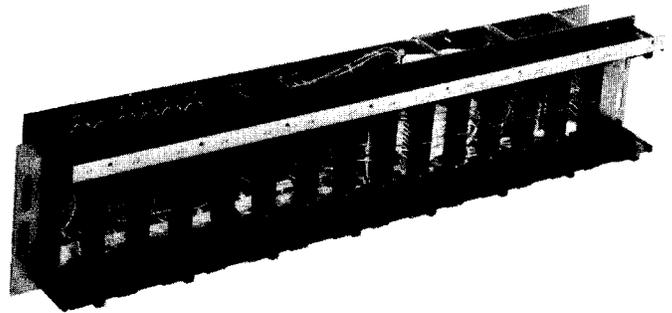

Fig. 1 SB319A Key Service Panel
- 1.1 This section provides general description and installation information for the San/Bar 319A Key Service Panel as shown in Figure 1. The SB319A provides mounting for up to 15 standard line cards such as the SB4000F or WE400. The SB319A is equivalent to the WE584 panel but with greater flexibility and capacity. The panel utilizes the SB6606A Solid State Interrupter (18-pin plug-in card) mounted in the end card position for the interrupter functions. The SB319A Panel also accepts the San/Bar 6608A Ringing Generator which plugs into an 18-pin card position. For maximum utilization of card positions, the SB319A may be strapped as a master panel that would mount the interrupter, ringing generator, and 13 line cards; and additional panels having the maximum of 15 line cards per panel with power distribution from the master panel.